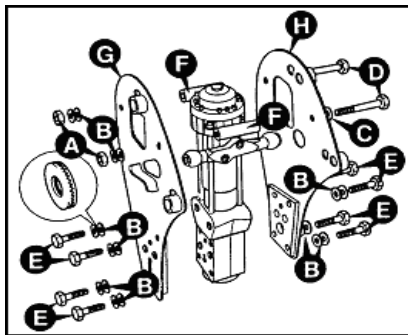

Fig 15.
- 1 Mount the Hammer Master on the rock breaker support stand. Support each side plate on lifting hooks inserted in the pivot pin holes → Fig 15. (□ 3-17).